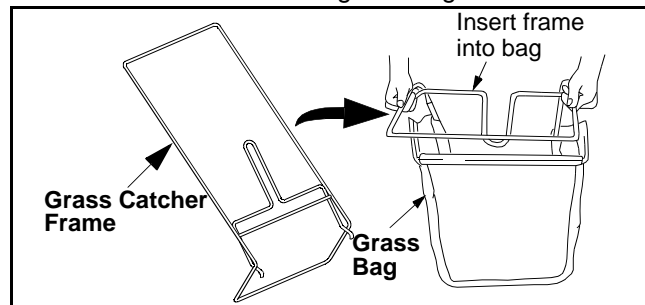

Figure 7
- Insert frame into grass bag with the black plastic side on the bottom of bag. See Figure 7.